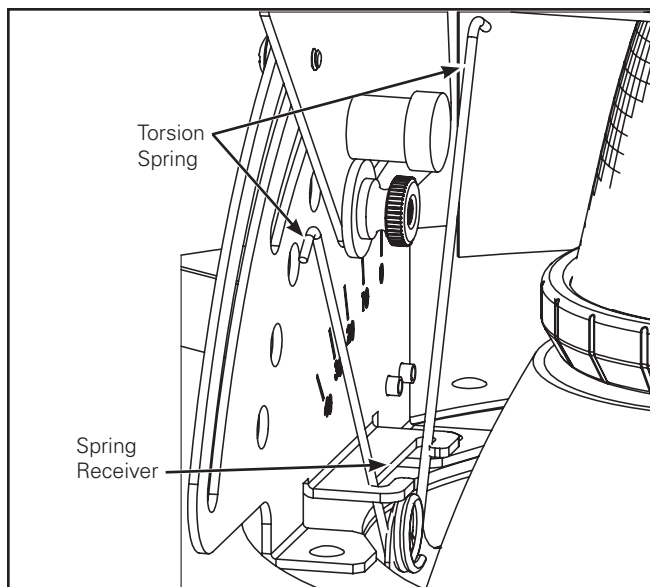

Figure 12.
2. Install Trim Assembly by inserting Torsion Springs into Spring Receivers inside housing (Figure 12).